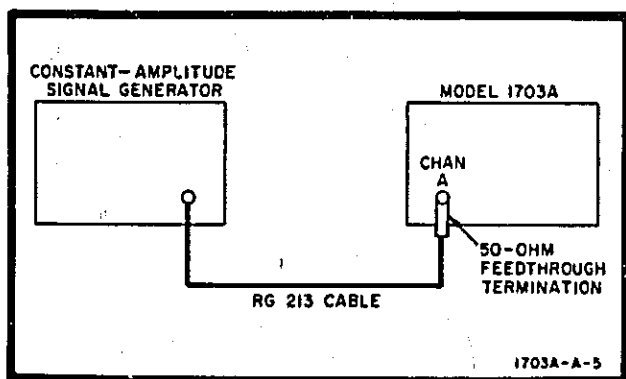

Figure 5-4. Bandwidth Test Setup
- a. Connect instruments as shown in figure 5-4.